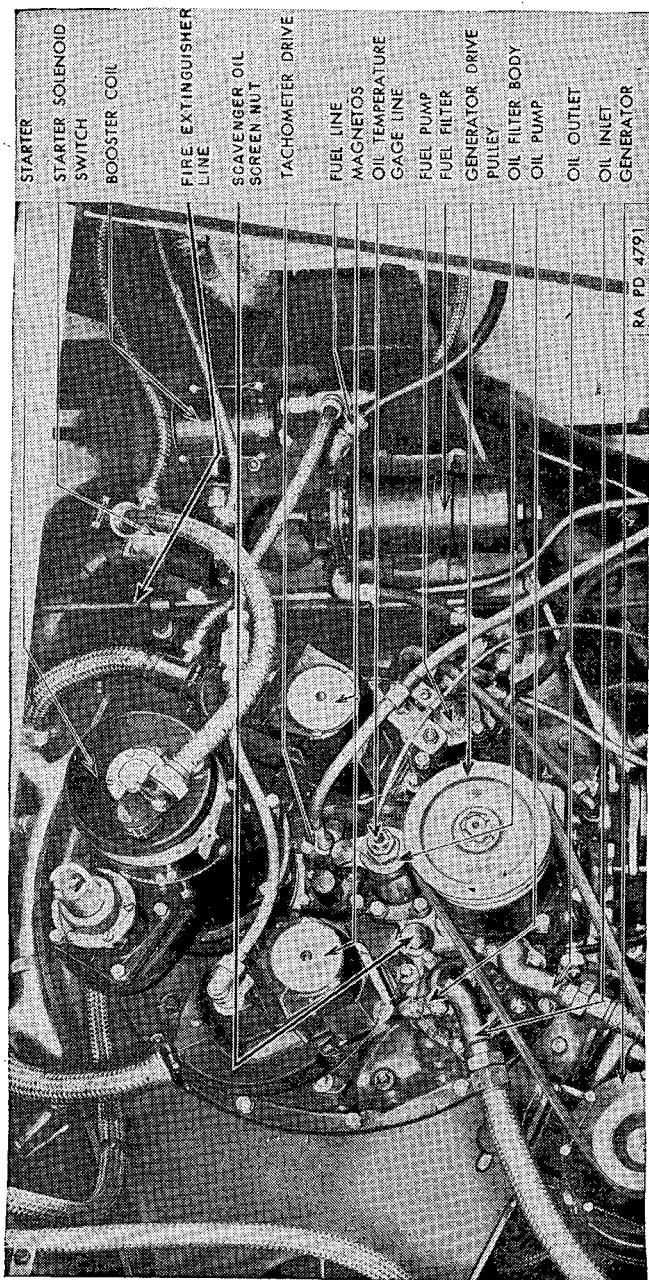

FIGURE 23.—Engine accessories, Continental series 9A.
(f) *Magneto breaker points*.—See that the magneto breaker points are clean and properly adjusted. Check the operation of the magneto (fig. 23).
45. Accessory case (fig. 23).—The accessory case is a one-piece aluminum alloy casting attached to the rear section of the main crankcase. It houses all accessory drives and mounts all accessories except the carburetor and generator.
(2) *Scavenger oil pump filter.*—A screen type filter is used to remove foreign matter from the scavenger lines. Remove and clean the screen after each 25 hours of engine operation. To remove screen, remove locking wire and screw screen assembly out of accessory case (fig. 23).